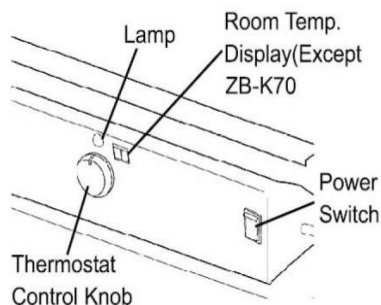

Fig.5. Control panel for all models
4. Turn the thermostat control knob to the desired temperature setting. The setting range is from 40°F to 110 °F. Push the power switch to the “ON” position(Fig.5). The power indicator lamp and room temperature display (DG-K100 only) will light, and the heater will start.